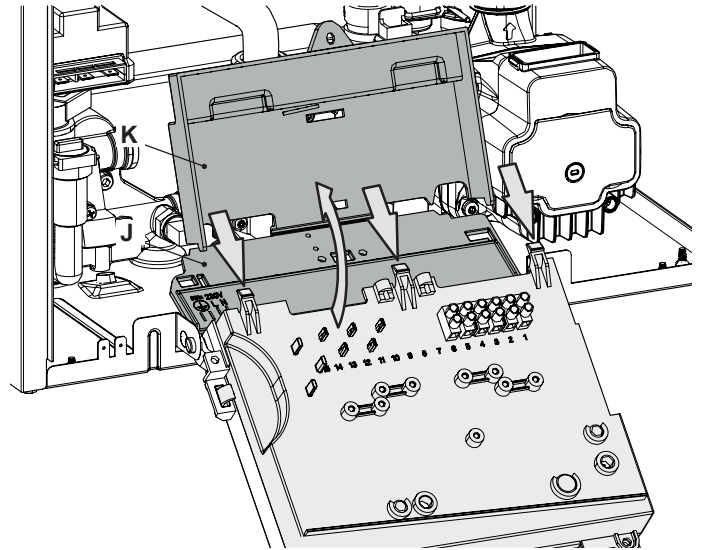

Figure 2.8
- 6 Free the hooks indicated and rotate the cover "K" and the lids "J" (Figure 2.8).